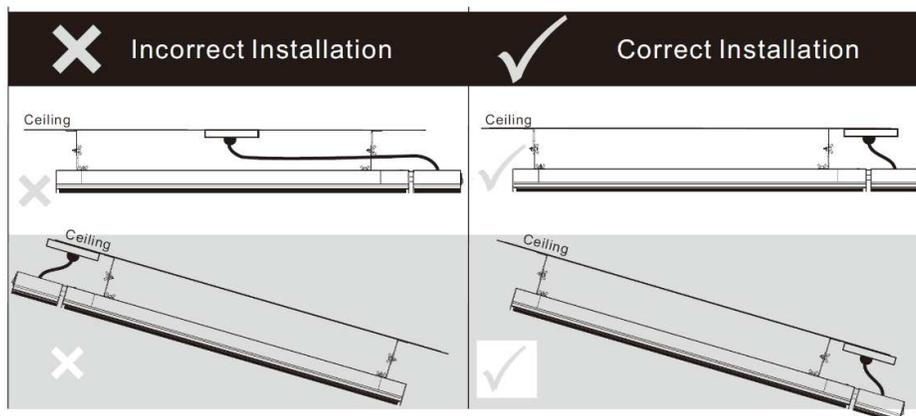

Figure 2.3
- **This product must be installed at least 2.2 m above the floor level. (Refer to figure 2.3)**